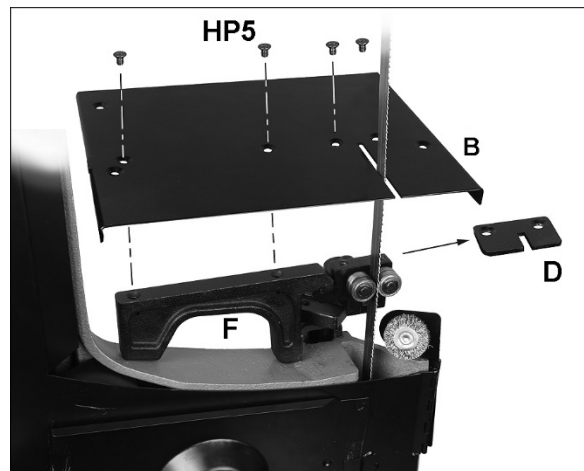

Figure 8-4: installing cutting plate
6. Place smaller support (F, Figure 8-4) onto groove of blade guide, and adjust height of blade guide until support sits level on bow frame, as shown (712DV only).
7. Remove deflector plate (D).
8. Install table plate (B) and secure with four screws (for 712DV) or two screws (for 712V).